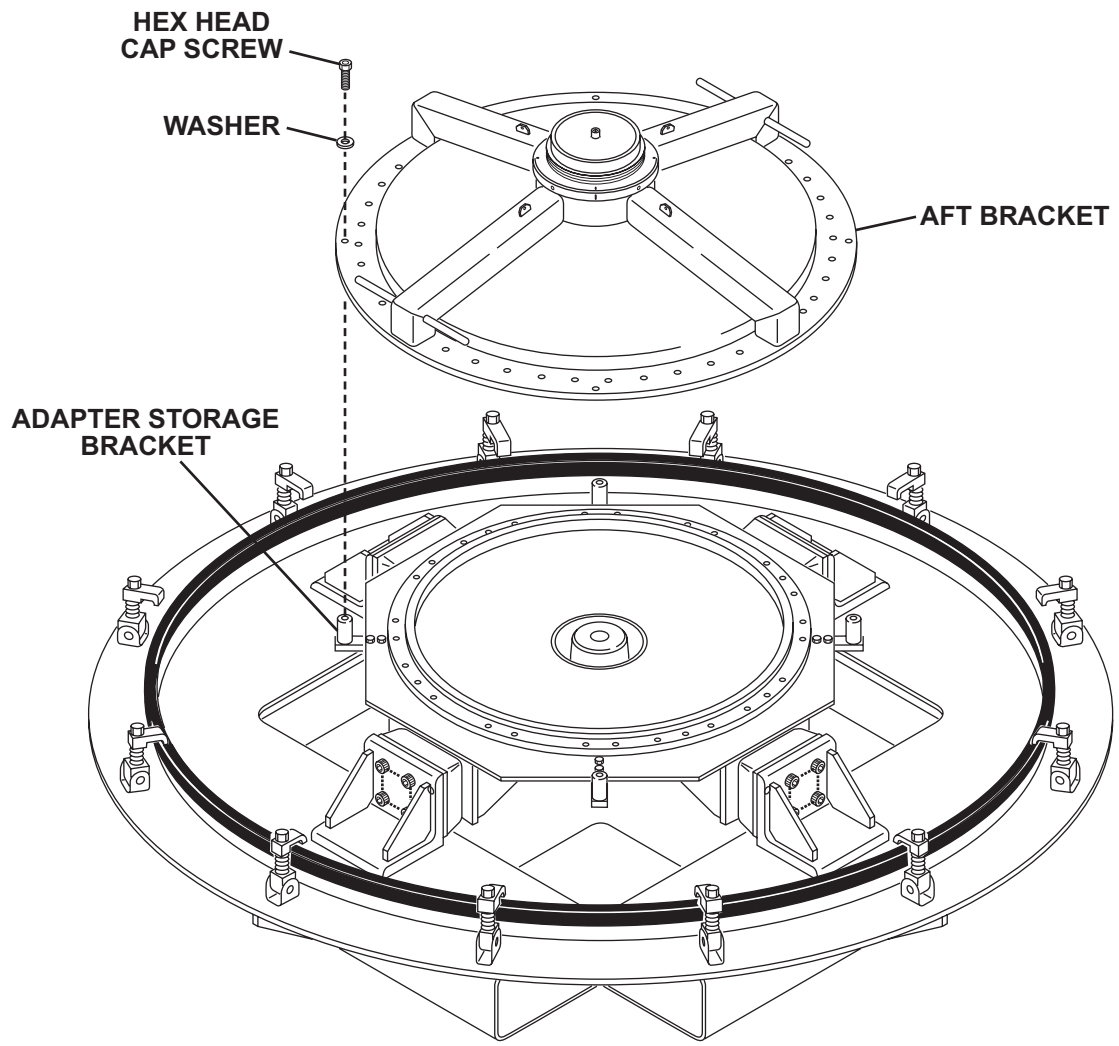

Figure 5.1-1. Aft Bracket Removal.
- 2) Remove four (4) hex head cap screws and washers from the aft bracket (in storage position). See Figure 5.1-1. Set hardware and aft bracket aside.
- 2) Remove the adapter storage brackets (AGSE-C03404-P01) from their storage position under the forward support. Install brackets onto the forward support as shown in Figure 5.1-1. Do not fully tighten screws at this time. This will allow for alignment adjustment when installing the aft bracket.
- 3) Remove the four (4) socket head cap screws stored on top of the adapter storage brackets, and set aside. Place the aft bracket (AGSE-C03403-P01) on top of the adapter storage brackets. Adjust the adapter storage brackets as needed to align the holes in the aft bracket with the holes in the adapter storage brackets.
- 4) Install the four socket head cap screws through aft bracket. Tighten all screws at this time (see Figure 5.1-1).